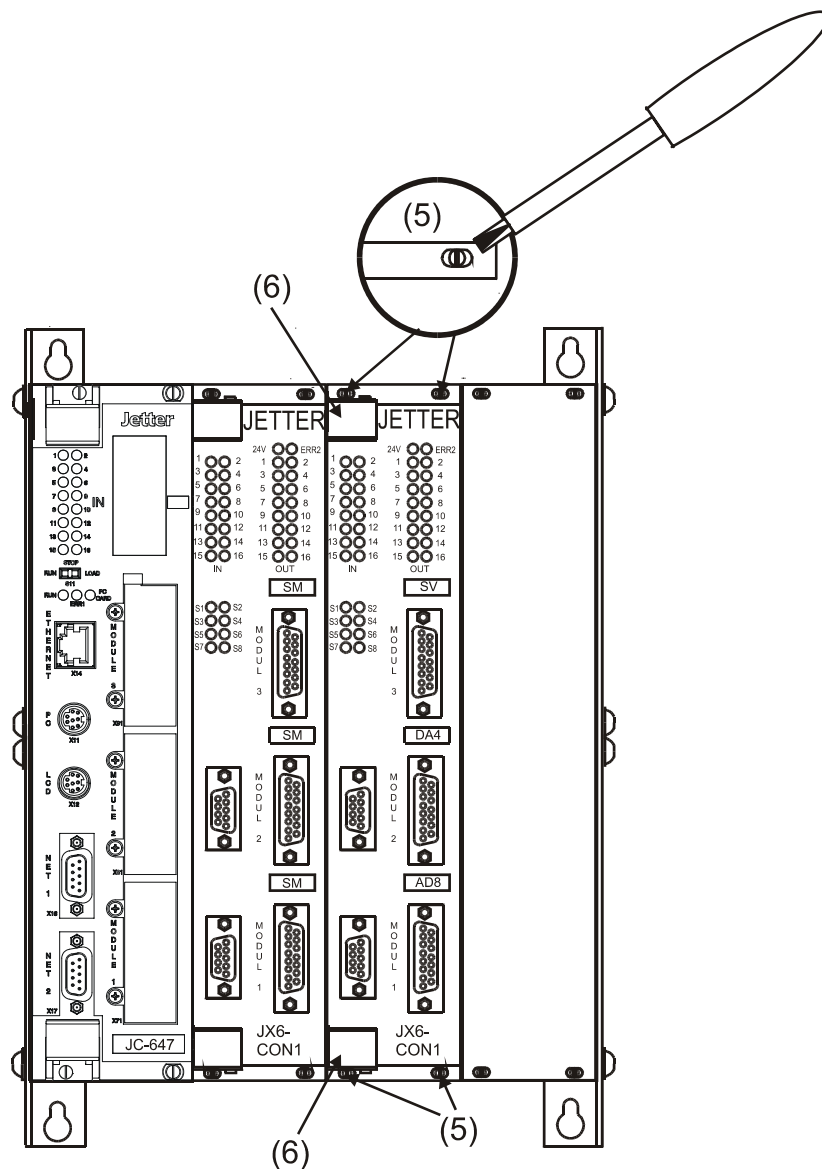

Fig. 13: Front View of the JX6 Rack with Modules
- Use a screwdriver to loosen the four screws (5) connecting the JX6-CON1/JX6-CON+ module with the JX6 rack (refer to Fig. 13).
- Pull the JX6-CON1/JX6-CON+ module out of the JX6 rack using the handles (6) (refer to Fig. 13).